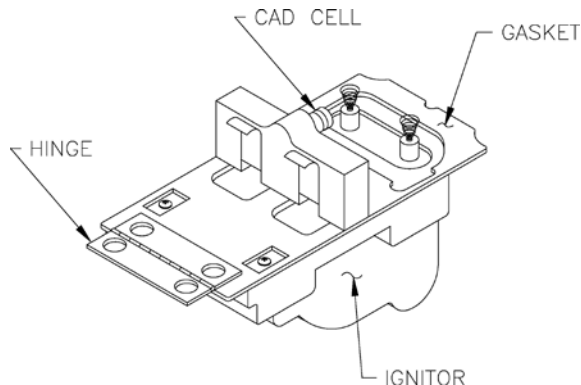

Figure 28: Cad Cell Location
10. **Cad Cell Location and Service.** The burner is supplied with a cadmium sulfide flame detector mounted at the factory, mounted on the bottom of the electronic ignitor. See Figure 28. To service cad cell or to replace the plug in portion, swing open the ignitor. After service is complete, be sure to fasten down the ignitor.